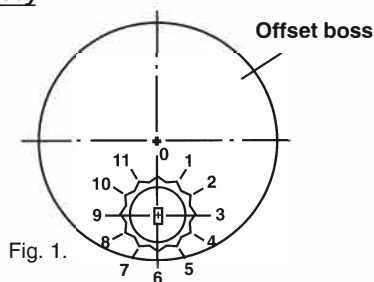

Fig. 1.
Locate the screwchuck in the socket with the marked corner of the hexagonal shank in alignment with position '0' in Fig. 1, and, having set the amount of offset to the desired amount, turn the first side on your workpiece.
3. Undo the M8 countersunk machine screw which holds the screwchuck captive in the Bi-hexagonal socket, and remove the screwchuck. Advance the screwchuck by six positions and reinstall it in the offset boss, with the same corner of the hexagonal shank in alignment with position '6' in Fig. 1. This ensures that opposite pairs of sides are turned consecutively, which helps to balance the revolving workpiece and keep vibration to a minimum. Secure the screwchuck once again with M8 machine screw, with the Allen key/Wrench provided.